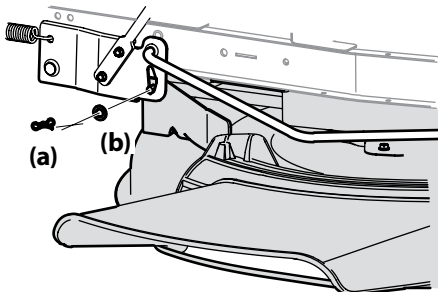

Figure 4-8
3. Remove the bow-tie cotter pin (a) and flat washer (b) from the deck lift assembly, and retain for reinstallation later. See Figure 4-8.